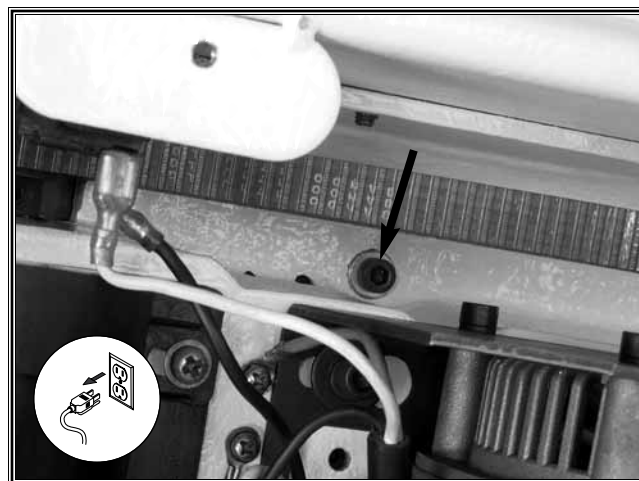

Figure 41. Blade guard mounting screw.
3. Remove the screw that secures the blade guard from beneath and remove the blade guard (**Figure 41**).